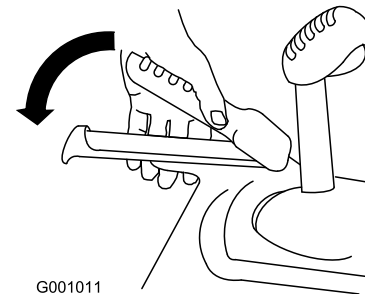

Figure 28
1. To engage the traction drive, squeeze the left hand (traction) lever to the hand-grip (Figure 28).